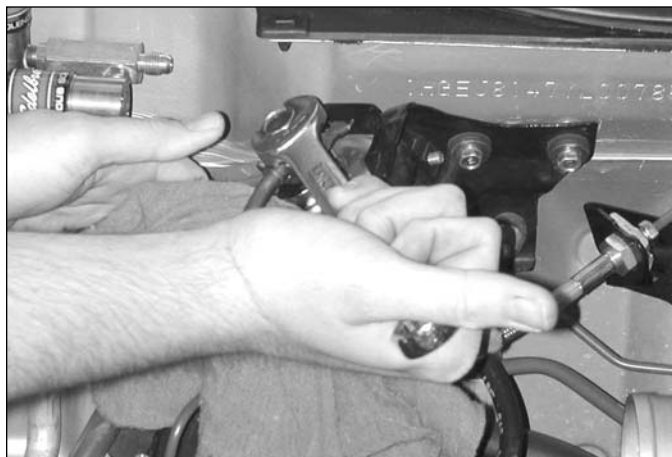

Figure 1 - Relieving Fuel Pressure at Fuel Filter
4. Relieve any residual fuel pressure in the fuel system. Remove the fuel filler cap, then relieve fuel pressure by loosening the banjo bolt connecting the fuel line to the fuel filter. Place a shop towel or rag over the wrench while loosening the banjo to soak up any fuel spray (**See Fig. 1**). When loosening or tightening the banjo bolt on the fuel filter can, use a 19mm wrench on the hex of the fuel filter can to counteract the torque of loosening or tightening the banjo bolt. This will prevent the fuel filter can and bracket from being improperly loaded during loosening or tightening at the banjo bolt. If your vehicle has a special banjo bolt at the fuel filter, which has a service bolt in the top of the banjo bolt, use a 6mm box end wrench to loosen the service bolt at the fuel filter while holding the banjo bolt with another wrench. Keep the banjo or service bolt loose until all pressure is relieved.